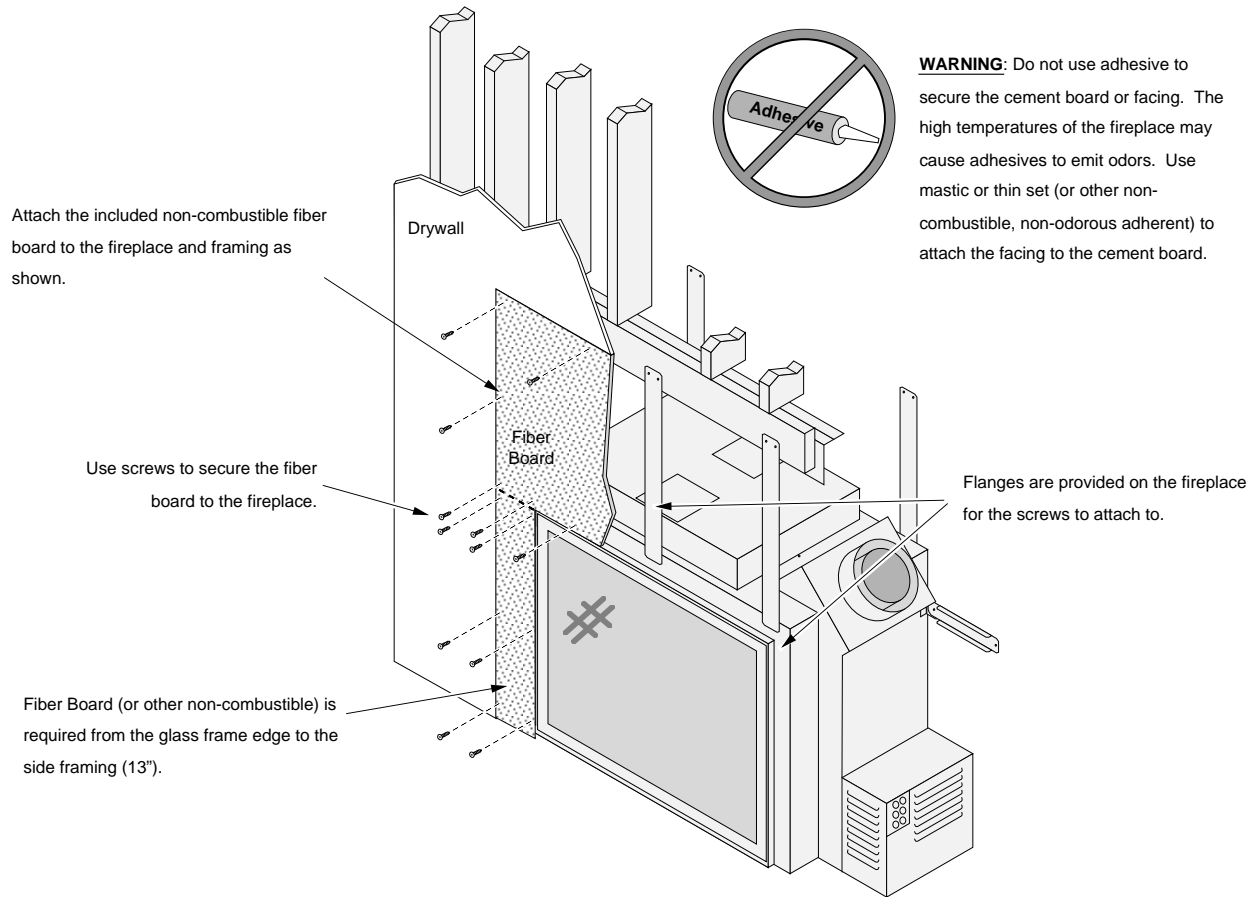

Figure 22
- Attach the included fiber board (or other non-combustible) to the fireplace and framing (see Figure 22 below). This non-combustible facing must extend from the base of the fireplace to the header and to the framing members on both sides.